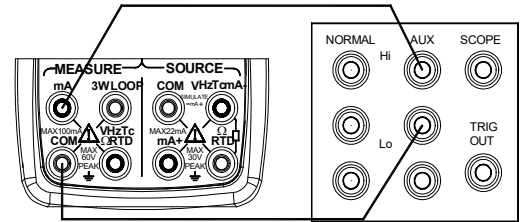

Figure 16 Calibrating DC current 50mA
Step 3: Connect the lead cables to the output terminals of the standard source as shown in Figure 16.